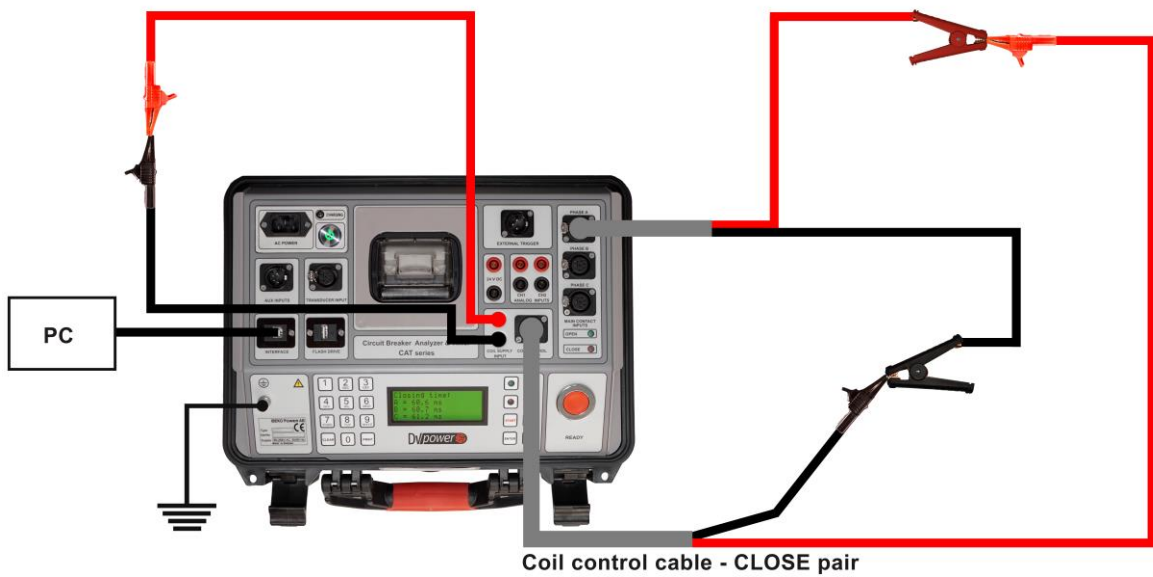

Figure 6-3: Coil Control test – Connection
1. Connect the CAT device to the PC. Connect Main Contact cables and Coil Control cable – CLOSE pair, as shown in the **Figure 6.3**.